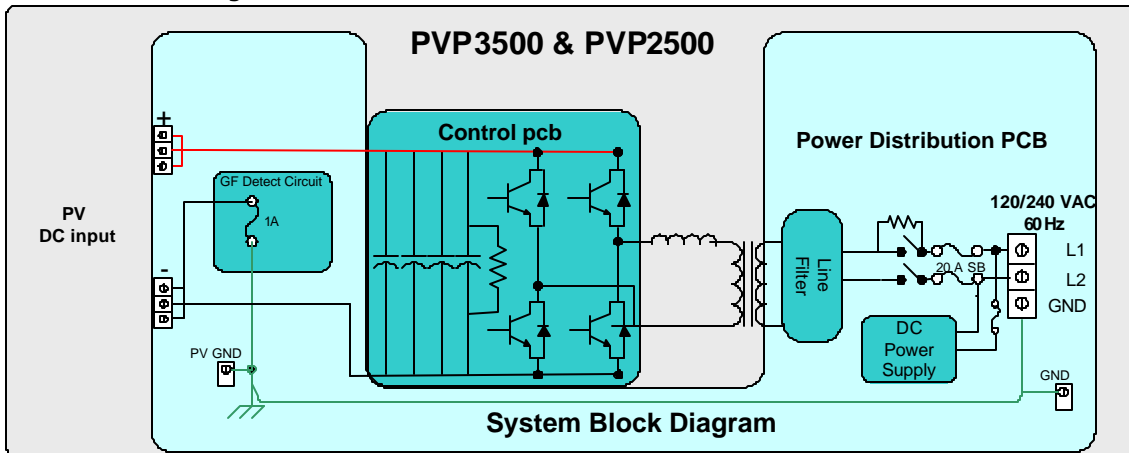

Figure 6: System Block Diagram showing single point ground point
- ◆ Figure 6 includes schematic representations of the PVP2500, PVP3500 and PVP4800 single point grounding. The front cover is grounded through the two cover mounting screws.